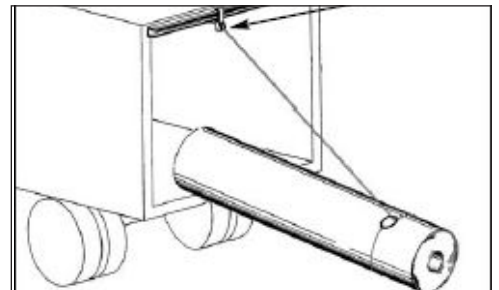

FIG. 3
4. With the front end of the roll resting on the end of the truck, lasso around the back of the carpet roll and secure (Figure 3).